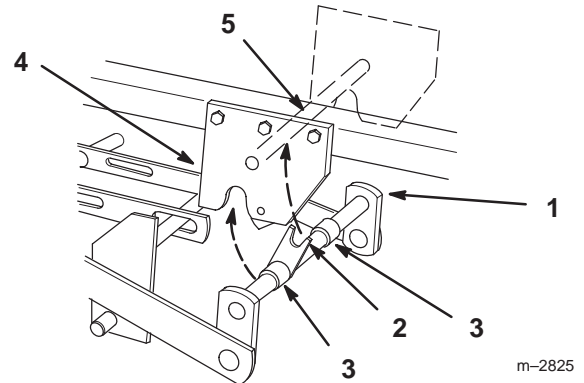

Figure 5
7. Rotate front mounting shaft so fork faces up and align so spacers are between mid-mount hitch plates (Fig. 5).
8. Lift mower with attachment lift and guide fork to capture hitch rod (Fig. 5). Close mid-mount hitch lock handle.